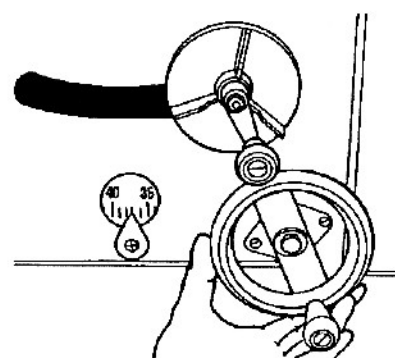

Fig. 31
43. Install the blade bevel crank (49) with the crank knob oriented as shown in Fig. 31. This orientation will prevent interference between the blade bevel crank knob and the blade height adjustment knob.